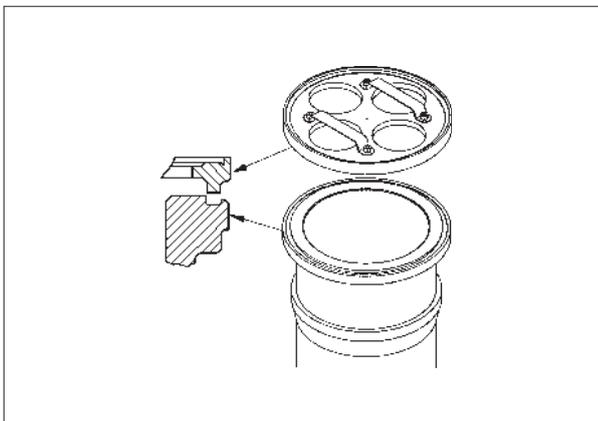
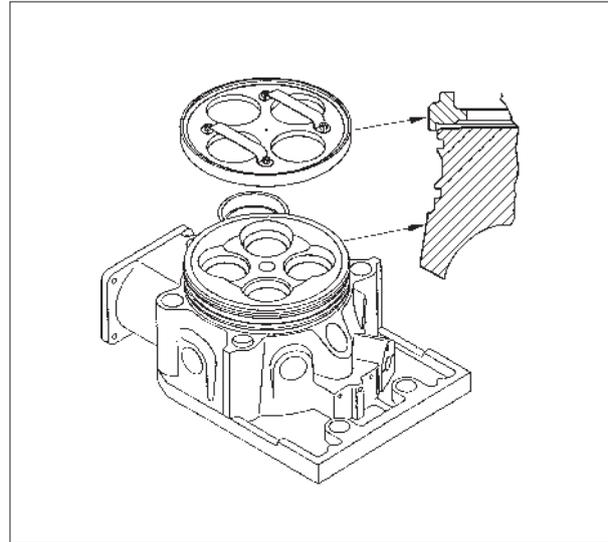

Fig. 2.
Fig. 3.
2) Face-grind sealing groove in cylinder liner flange, see fig. 2 and seating surface on the cylinder head, see fig. 3. With the use of grinding pasta and the grinding tool.